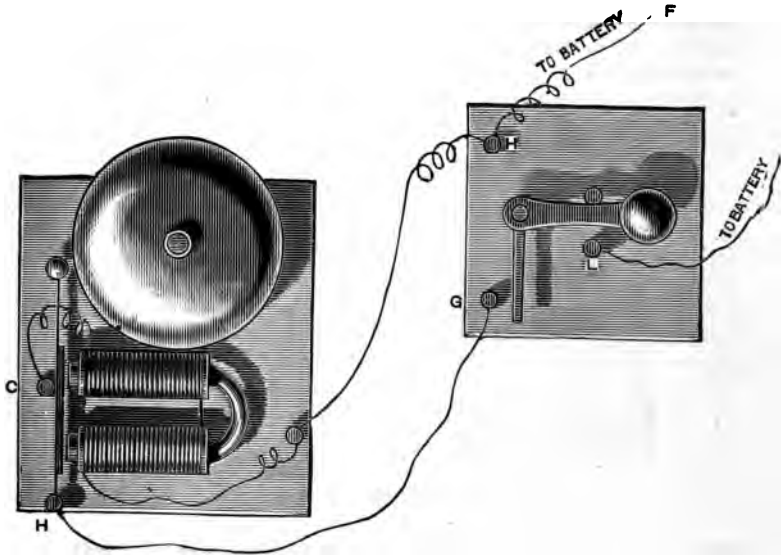

FIG. 124.—ALARM ELECTRIC BELL WITH CONTINUOUS ACTION.
At Fig. 124 is illustrated a different form of push to that previously described, in order to show the variation that may be made in this part of the apparatus. It consists of a bent lever of brass, with a handle or knob of porcelain at one end for the finger and thumb. It turns upon a central screw, to which one wire of the battery is connected. The battery wire goes from F to the stud H, to which one end of the wire from the magnet is also fastened. The other wire from H on the bell board comes to the other stud, marked G. If the handle of the push is moved to the left till it touches the stud L, the other end of the bent lever then resting against G, the current will pass from one pole of the battery by the studs and bent lever to G, thence to H, and along the hammer-spring to the stud (C). It will then go to the magnet, and by its coils and line wire to H, and finally to F, the opposite pole of the battery. The connection being complete, and the horseshoe magnet drawing down its keeper and making a stroke on the bell, connection will be instantly broken between the keeper and the stud (C), and the former will fly back to the stud owing to the cessation of magnetic attraction, then at once renewing the circuit and causing the same effect as before. The stud on the opposite side of the push handle is merely a stop for the lever to rest against.